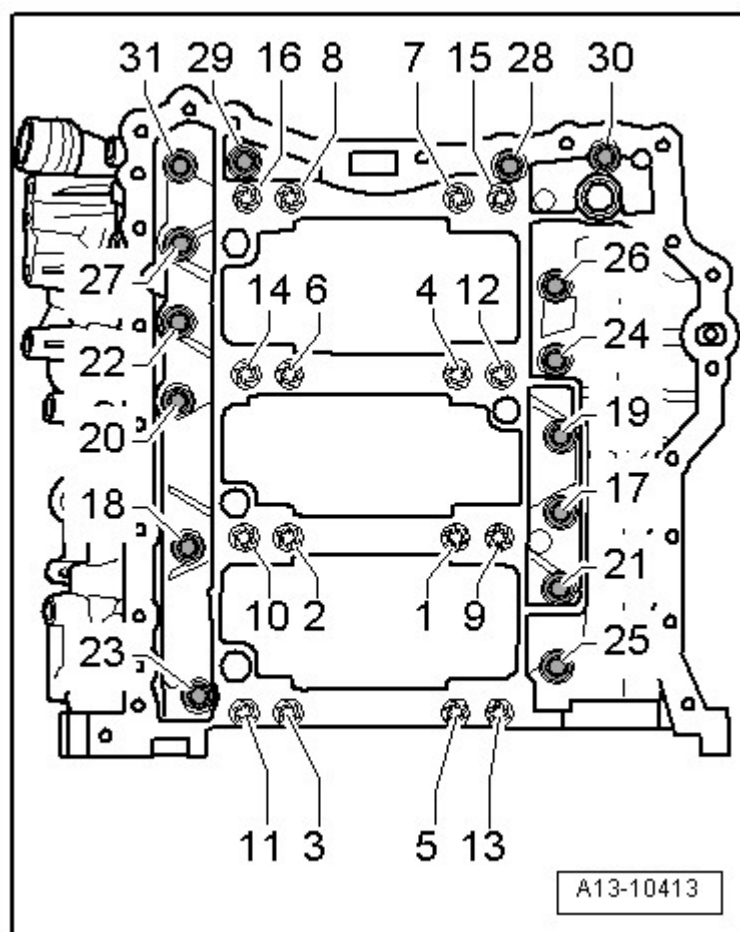

Fig. 8: Identifying Guide Frame Bolts Tightening Sequence
- Tightening sequence, refer to **Fig. 8**